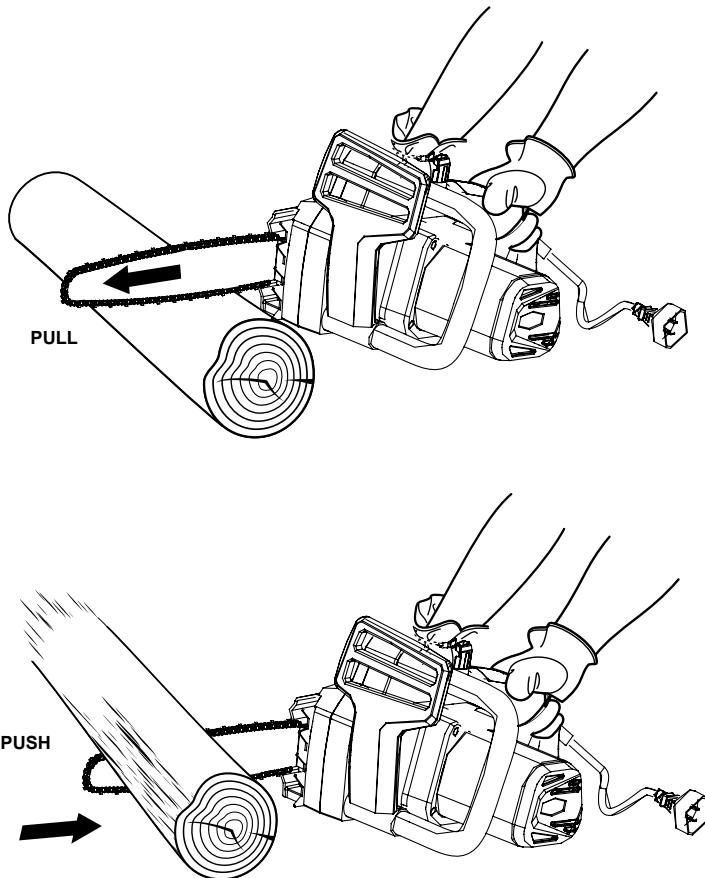

Fig. 3
- Push and Pull — This reaction force is always opposite to the direction the chain is moving where contact is made with the wood. Thus, the operator must be ready to control the PULL when cutting on the bottom edge of the bar, and the PUSH when cutting along the top edge. (See Fig. 3)